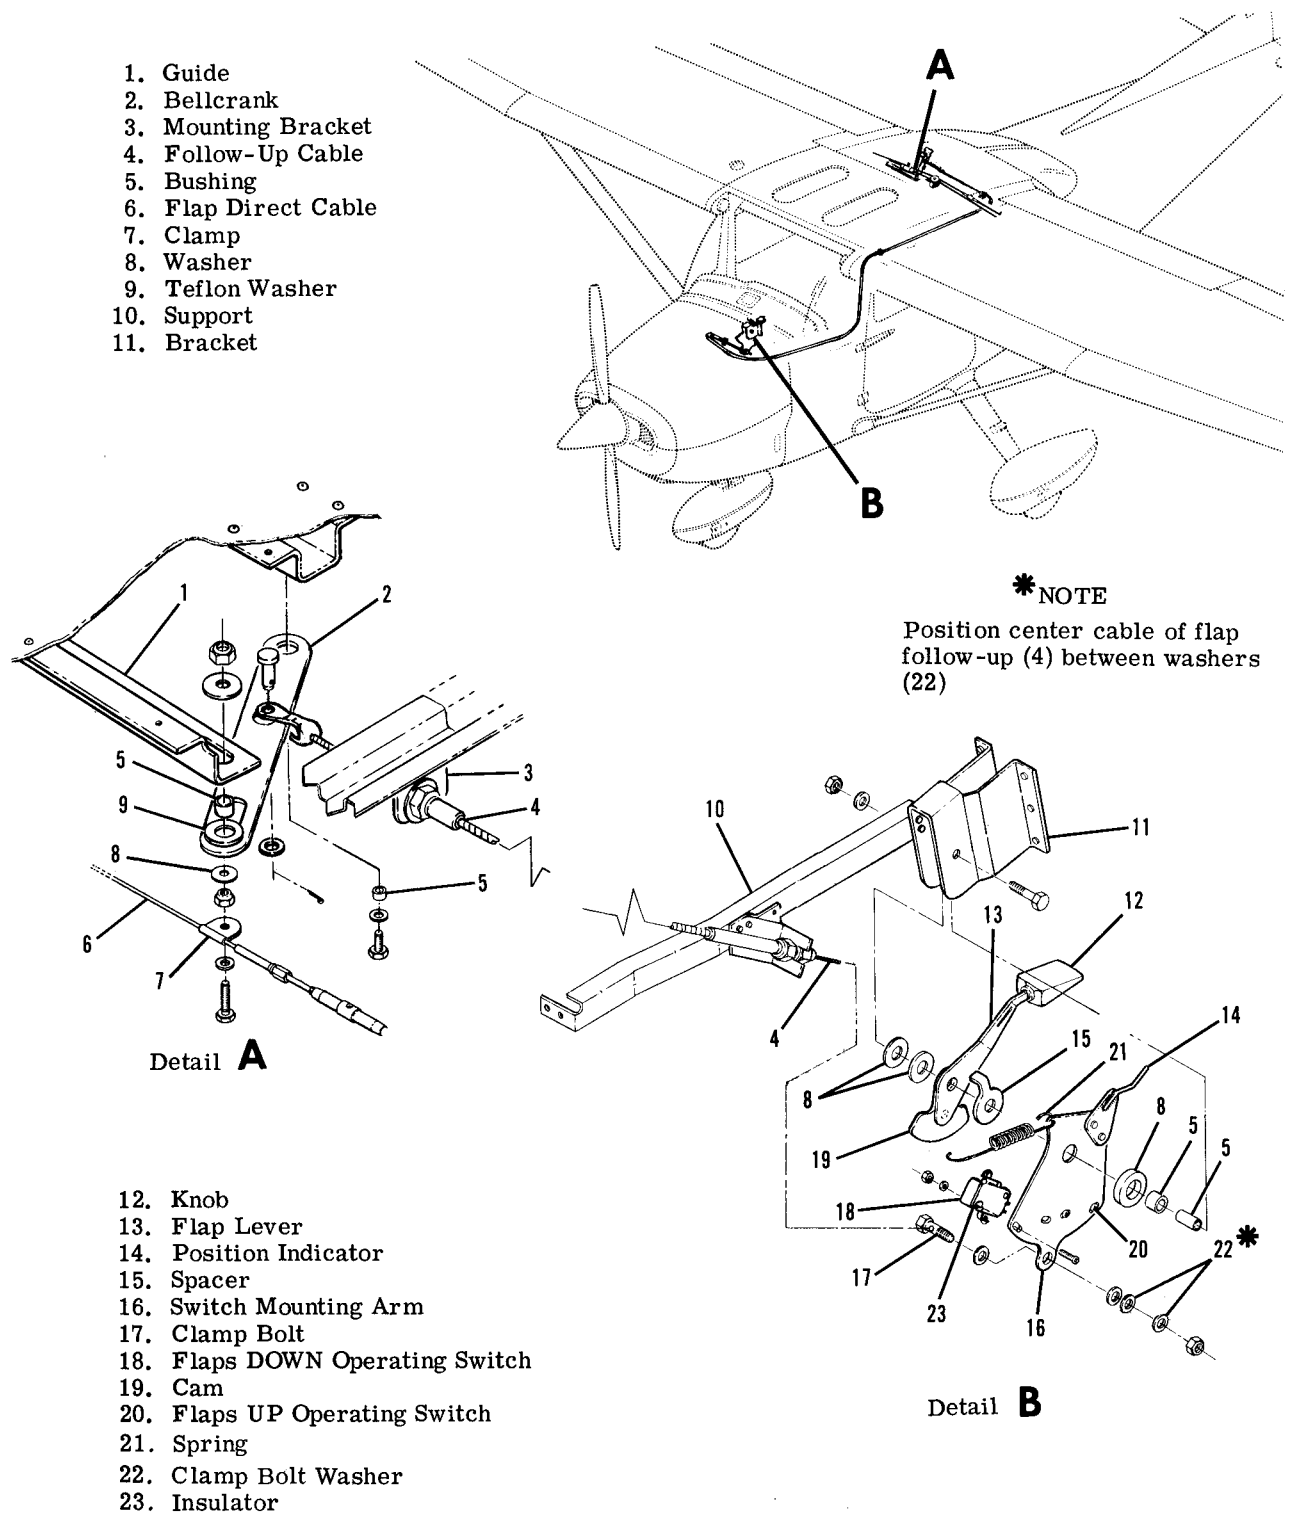

Figure 7-5. Flap Follow-Up Control and Position Indicator
- If direct cable (4) is to be removed, disconnect clamp (index 7, figure 7-5) from bellcrank (index 2, figure 7-5).
- Remove safety wire, relieve cable tension, disconnect turnbuckles (6) and carefully lower LEFT flap.
- b. With flaps in the full UP position, disconnect follow-up cable (index 4, figure 7-5) by removing clevis attaching follow-up cable to bellcrank (index 2, figure 7-5).
#### 7-17. FLAP FOLLOW-UP AND INDICATING SYSTEM. (Refer to figure 7-5.)
7-19. REMOVAL AND INSTALLATION. Figure 7-5 can be used as a guide to removal and installation of the flap follow-up and indicating system.
#### 7-20. RIGGING. (Refer to figure 7-5.)
b. Disconnect spring (21) from switch mounting arm (16).
c. With flaps and flap lever (13) in full UP position and holding flap position indicator (14) to a clearance of .03 inch maximum with top of instrument panel opening, pull center cable of flap follow-up (index 4, detail b) to remove slack. Connect cable thru clamp bolt (17) observing note of figure 7-5.
d. Connect spring (21) to switch mounting arm (16).
e. Adjust switches (18) and (20) in slotted holes in mounting arm (16) until cam (19) is centered between switch rollers.
f. Mount an inclinometer on one flap and set to  $0^\circ$  (flaps full UP). Turn master switch ON and move flap lever (13) to  $10^\circ$  position.